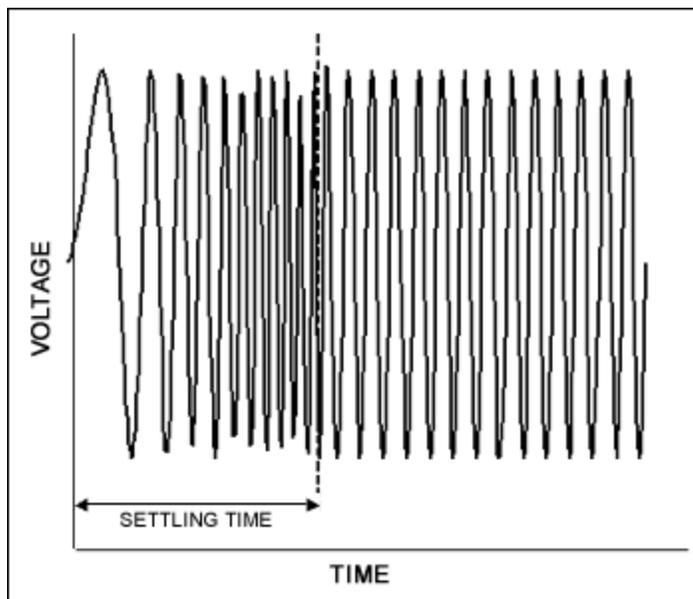

Figure 7. Output of a VCO settling to a higher frequency.
**Settling Time** is the time it takes the VCO to reach its final frequency. Settling time is measured from the moment that the tuning voltage changes to when the output reaches a specified percentage of its final value (**Figure 7**). A lower settling time reduces the waiting between frequency changes, and allows faster channel-switching and frequency-hopping applications.